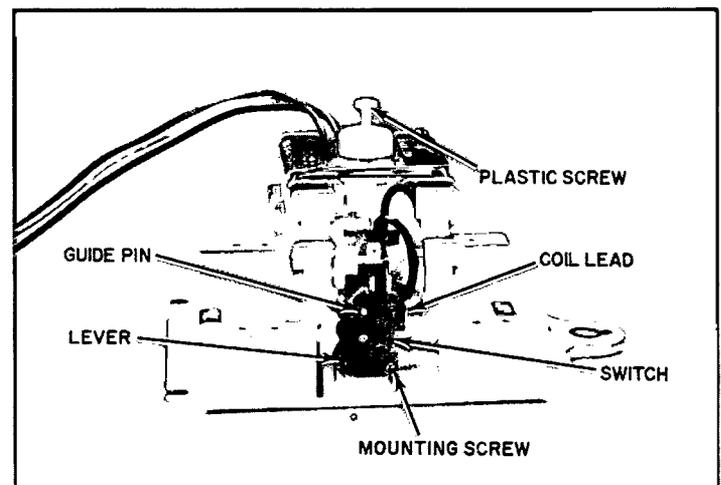

Figure 7.
1. See Figure 7. Remove the coil lead with the quick connect terminal from the switch on the right side of the contactor.